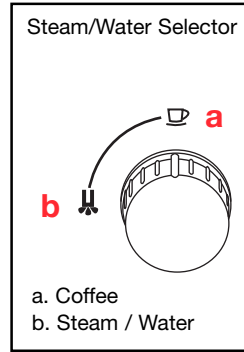

Fig. 4
11. Steam/Water Selector (See Fig. 4)